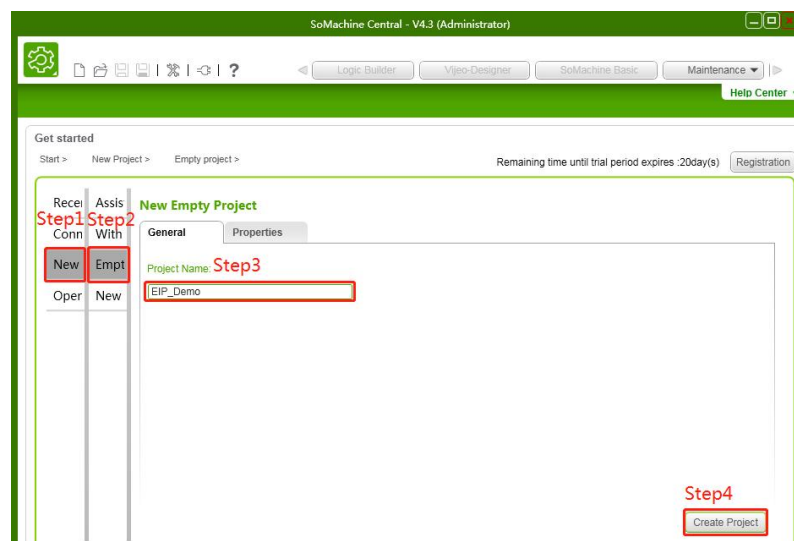

Figure 5-3-1
- Open SoMachine V4.3 software, click “New project” as shown in Figure 5-3-1, then click “Empty project”, fill in the project